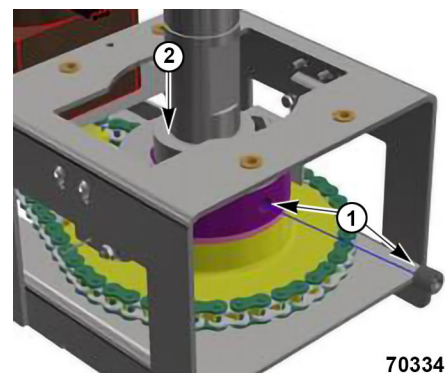

Fig. 98
- 4) Rotate set collar to access set screw (1, Fig. 98), then loosen set screw.
- 5) Remove and retain shims located on top of snap ring (2, Fig. 98).